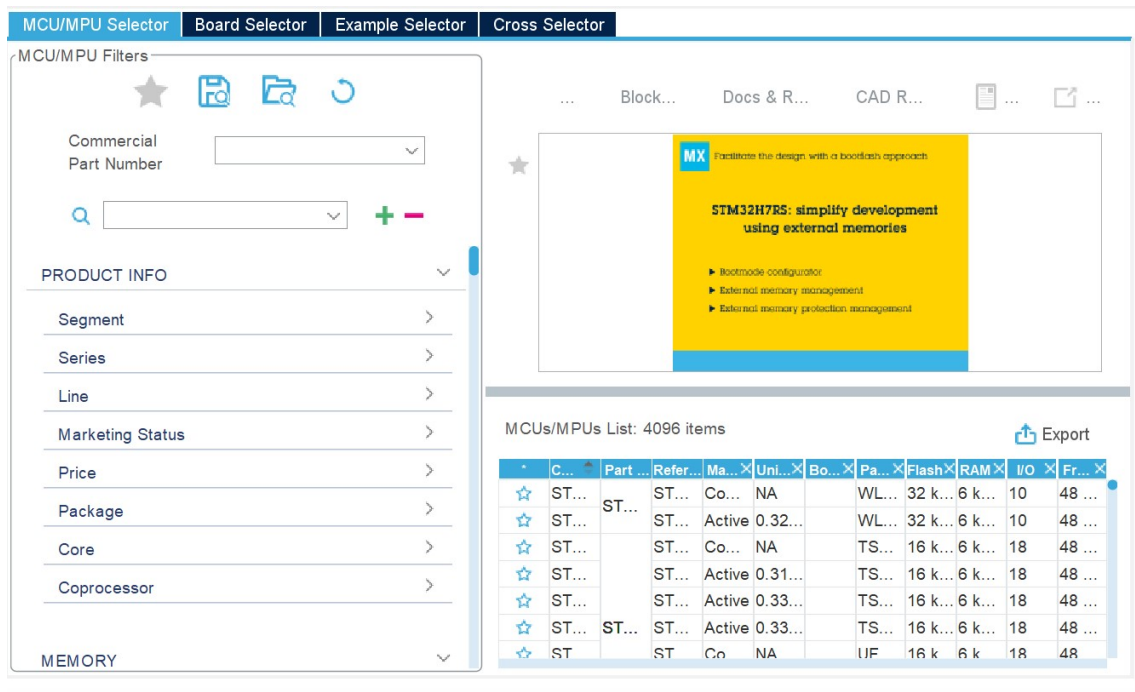

Figure 1: Target Selection
1. Start STM32CubeIDE, select File → New → STM32 Project. You will now be presented with figure 1.